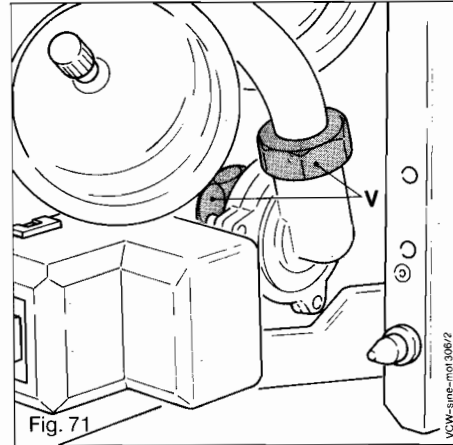

Fig. 71
14.15 Change of system bypass (Fig. 71)